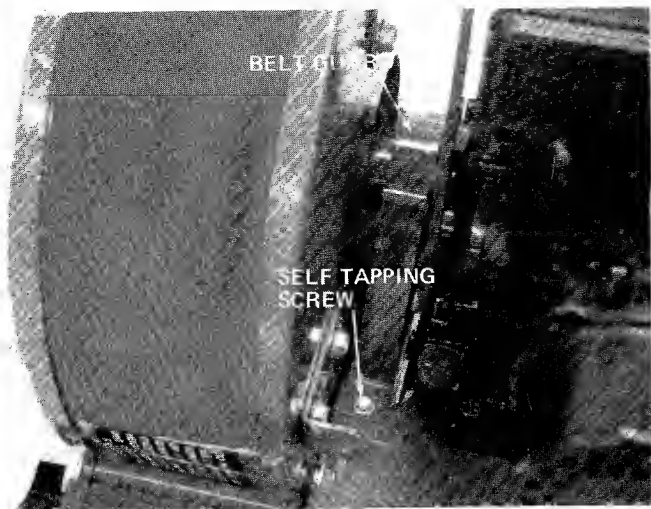

FIGURE 17.
4. Remove two self-tapping screws which hold the belt guard. See figure 17. A 3/8" wrench is required. Lift off belt guard.